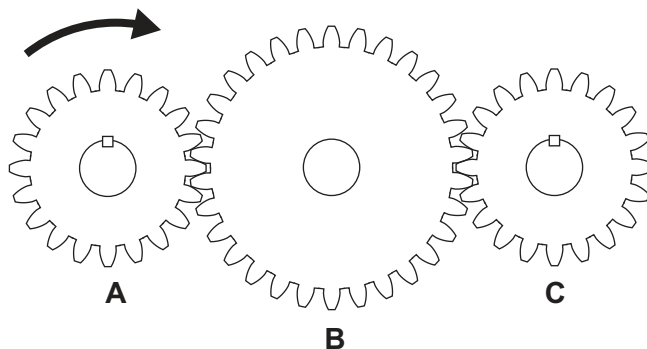

Fig. 4.1
- 4 Fig. 4.1 shows three spur gears used to connect the drive shafts on gears **A** and **C**.
- (a) Add arrows to Fig. 4.1 to show the direction of rotation of gears **B** and **C**. [2]